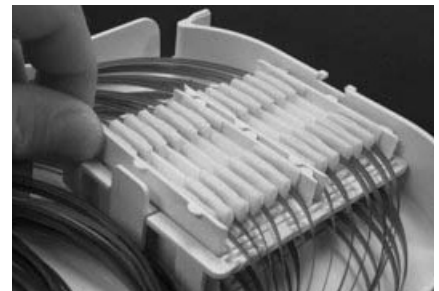

Figure 6
6. For modules 2 and 3, store splices, insert modules into stack module, and rotate entire stack module assembly as described in step 5. Then place the stack module on top of the original splice module as shown in Figure 6.